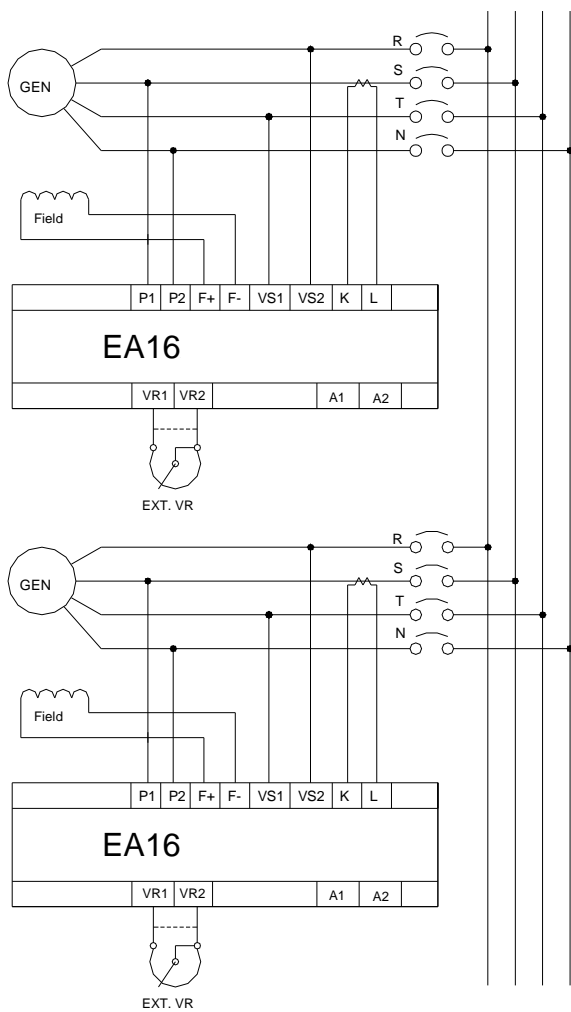

Figure 2 Paralleling Connection
1. Installation Notice : (Refer to Figure 2 and 4).